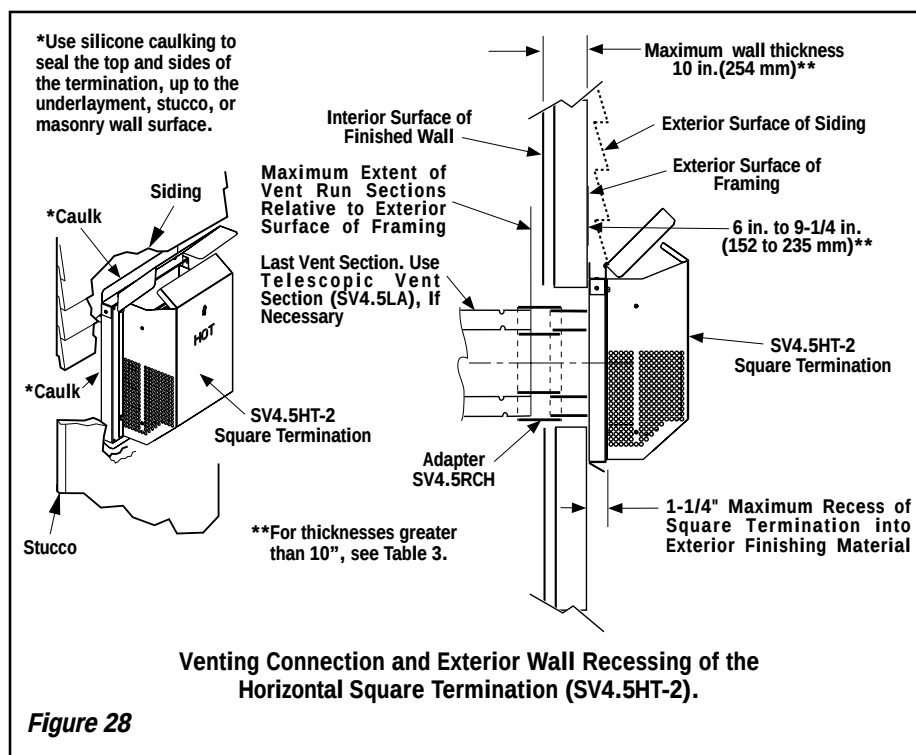

Figure 28
L. Assemble vent run to exterior wall - If not previously measured, locate the center of the vent at the exterior wall. Prepare an opening as described in **Step D**. Assemble the vent system to point where the terminus of the last section is within 7 in. (178 mm) to 11-1/4 in. (286 mm) inboard of the exterior surface to which the SV4.5 HT-2 termination is to be attached, see **Figure 28**.
If the terminus of the last section is not within this distance, use the **telescopic vent section SV4.5LA**, as the last vent section. For wall thicknesses greater than that shown in **Figure 28**, refer to **Table 3 on page 18**. This table lists the additional venting components needed (in addition to the termination and adapter) for a particular range of wall thicknesses.
1. Install the square termination (SV4.5HT-2)- For the last step, from outside the exterior wall, slide the collars of the termination onto the adapter (the outer over the outer and the inner inside the inner) until the termination seats against the exterior wall surface to which it will be attached. Orient the housing of the termination with the arrow pointed upwards. Secure the termination to the exterior wall. **The horizontal termination must not be recessed into the exterior wall or siding** by more than the 1-1/4" (32 mm) as shown in **Figure 28**.